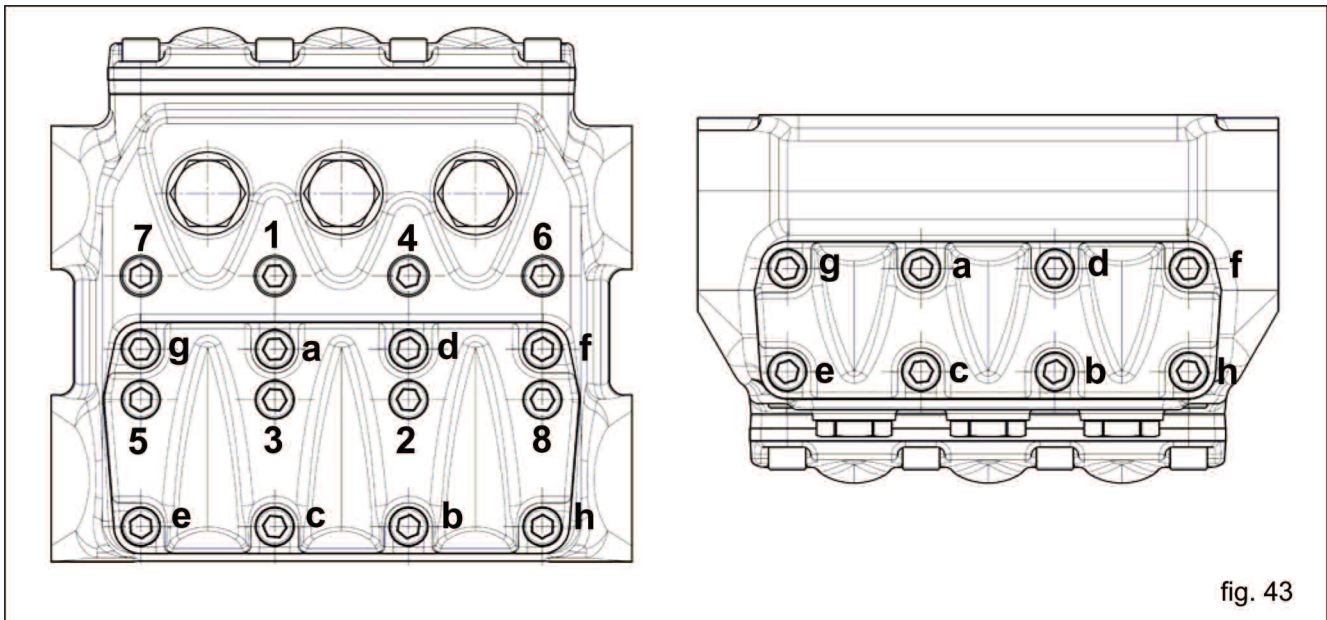

fig. 43
- *** The valve cover fastening screws, exploded view position 45, must be tightened with a torque wrench, lubricating the threaded stem and respecting the order indicated in the scheme in fig. 43